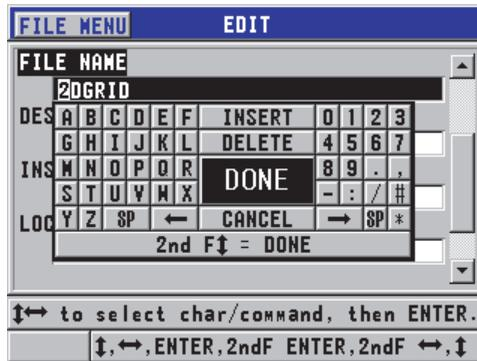

Figure 6-29 Entering new file information
2. In the **EDIT** screen (see Figure 6-29 on page 107):